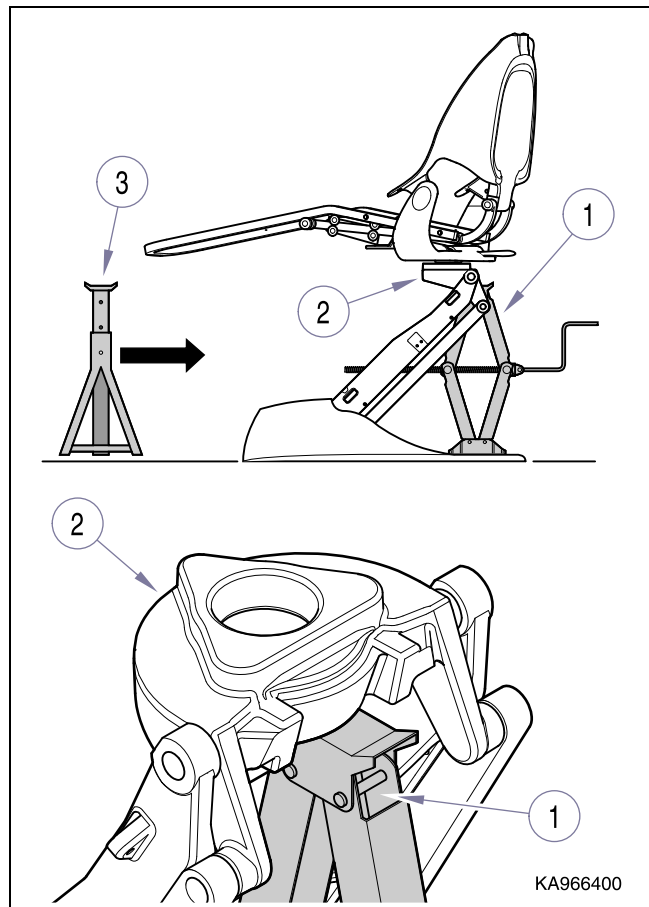

Figure 4-8. Hydraulic Base Cylinder
- b.) Place a scissor jack (1, Fig. 4-8) or equivalent beneath upper lift casting (2) and raise chair a minimum of 9" (23 cm).
- (5) Plug chair into electrical outlet.
- (6) **Carefully** jog Base Up until rod-end of base cylinder (5) is located in hole of upper lift casting.
- (7) Install hairpin cotter (6).
- (8) Install cable ties (1) at previously marked locations.
- (9) Press Base Up to raise chair and remove jack stand(s) (3, Fig. 4-8).
- (10) Check hydraulic fluid level (refer to Hydraulic Fluid Level, para 4.12), then run chair through several functions and check for hydraulic leaks.
- (11) Unplug chair and install covers (refer to para 4.3) and upholstery (refer to para 4.2).